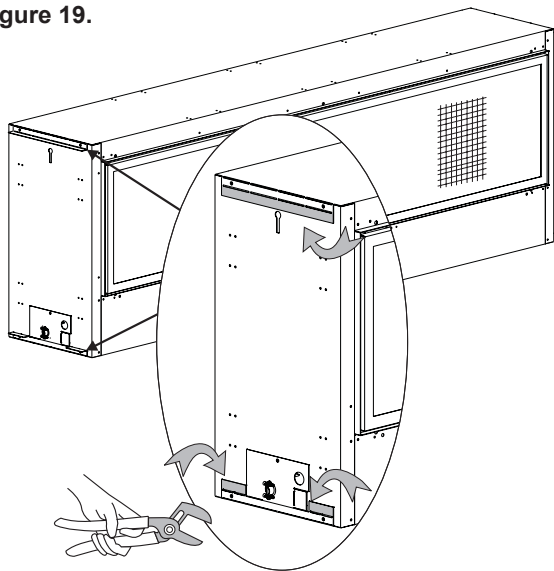

Figure 19
1. At the top and bottom of the fireplace, use pliers to bend each side standoff 90 degrees away from the cabinet. See **Figure 19**.